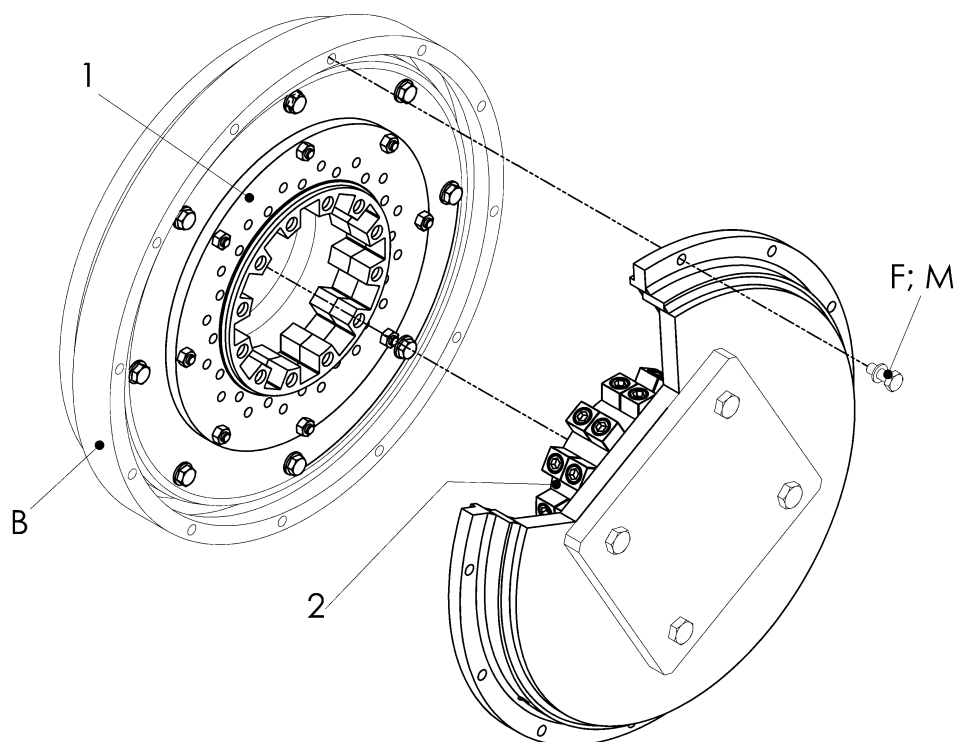

Fig. 5-6 Connecting the driving and the driven unit
8.2 Disconnecting the driving and the driven unit**See Fig. 5-6:**